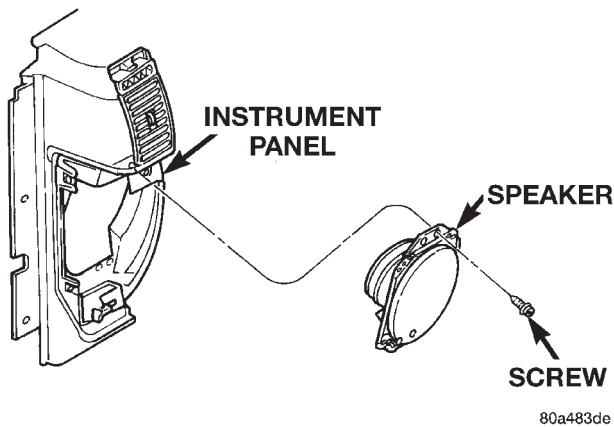

Fig. 6 Instrument Panel Speaker Remove/Install
- (3) Using a trim stick or another suitable wide flat-bladed tool, gently pry at the top and bottom edges of the speaker bezel to release the two snap clip retainers that secure the bezel to the instrument panel.
- (4) Remove the speaker bezel from the instrument panel.
- (5) Remove the foam rubber speaker baffle from the speaker.
- (6) Remove the four screws that secure the speaker to the instrument panel armature (Fig. 6).
- (7) Pull the speaker away from the instrument panel far enough to access the speaker wire harness connector.